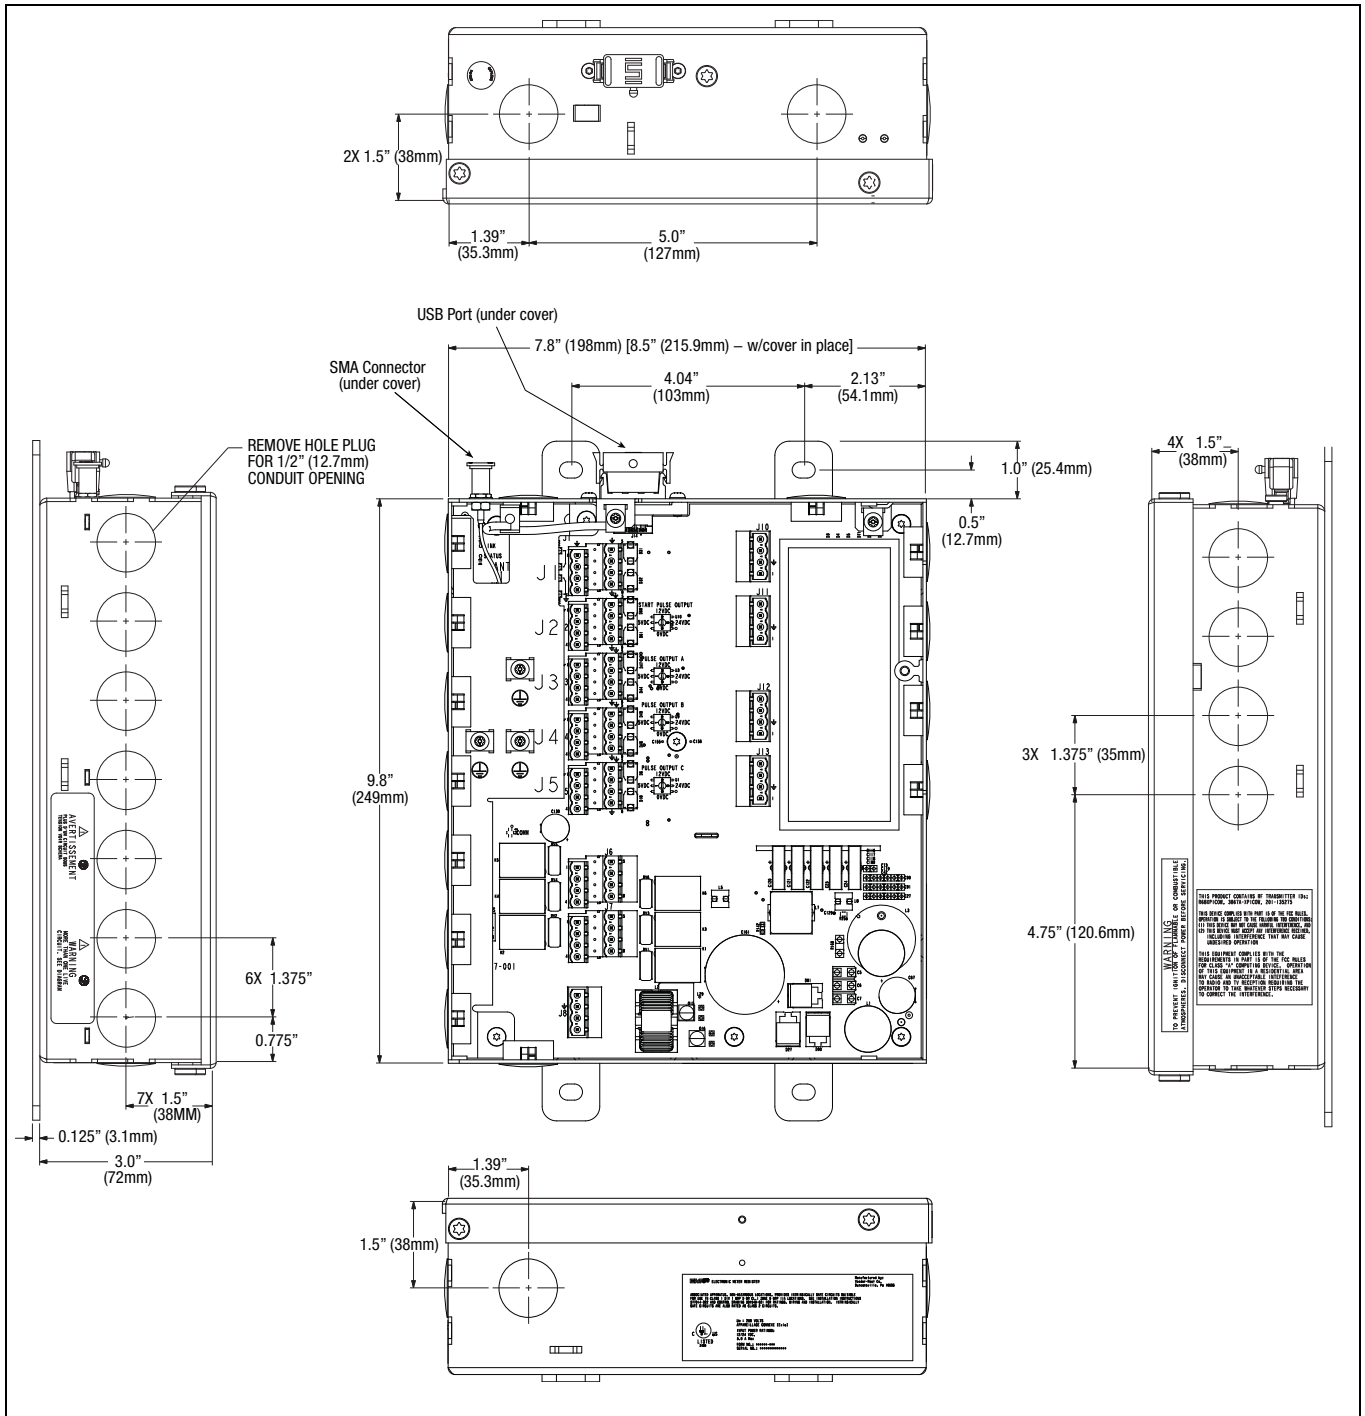

Figure 21. Interconnect Box Physical Dimensions (Shown With Cover Removed)
1. The physical dimensions of the Interconnect Box (IB) are shown in Figure 21. The IB is installed in the truck's cab either under the seat, mounted on the wall inside the cab, mounted to the passenger side of the "dog house" in cab-over trucks, or mounted to a custom-made bracket that can also support the optional printer. Use four, 3/16" (4 mm) bolts to mount the IB to the mounting surface. In the event of limited access, the front cover of the IB can be completely removed rather than swung open, by removing four #15 Torx screws. Put the excess coils of cable under the seat or clamp them to the IB mounting stand.